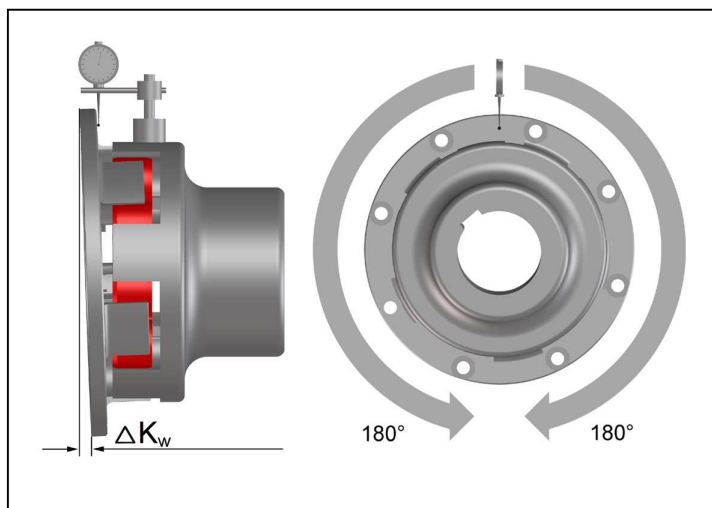

Fig. 6
- Measure one complete revolution (360°) on the face of the outer diameter. Determine the largest deviation  $K_{w1}$  and the smallest deviation  $K_{w2}$  (Fig. 6). Calculate the angular misalignment: